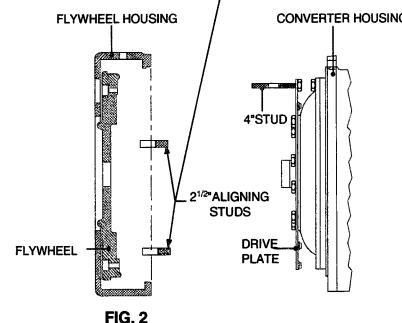

FIG. 2
3. Install two 63,50 mm (2.50") long transmission to flywheel housing guide studs in the engine flywheel housing as shown. Rotate the engine flywheel to align a drive plate mounting screw hole with the flywheel housing access hole (Fig. 2).
7. Install drive plate attaching screw and washer. Snug screw but **do not tighten**. Some engine flywheel housings have a hole located on the flywheel housing circumference in line with the drive plate screw access hole. A screwdriver or pry bar used to hold the drive plate against the flywheel will facilitate installation of the drive plate screws. Rotate the engine flywheel and install the remaining seven (7) flywheel to drive plate attaching screws. Snug screws but do not tighten. After all eight (8) screws are installed. Torque each one 35 to 39 N.m. (26- 29ft.lbs.). This will require tightening each screw and rotating the engine flywheel until the full amount of eight (8) screws have been tightened to specified torque.